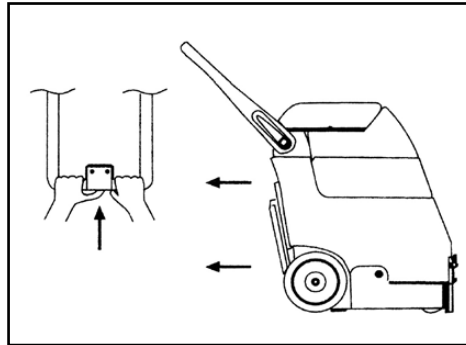

Figure 1
- To begin cleaning carpets, push button on handle with thumbs and slowly pull machine backward (fig 1).